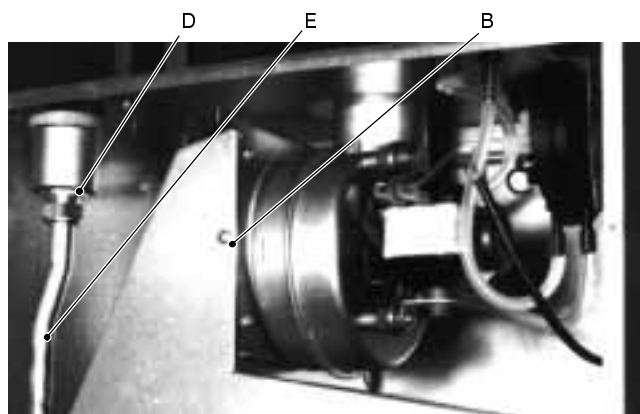

fig. 15a
- 5a Remove the front part of the flue gas hood by unscrewing the screw B (fig. 15a)
- 6 Unscrew the automatic air valve connection nut D and remove the valve (fig. 15a);